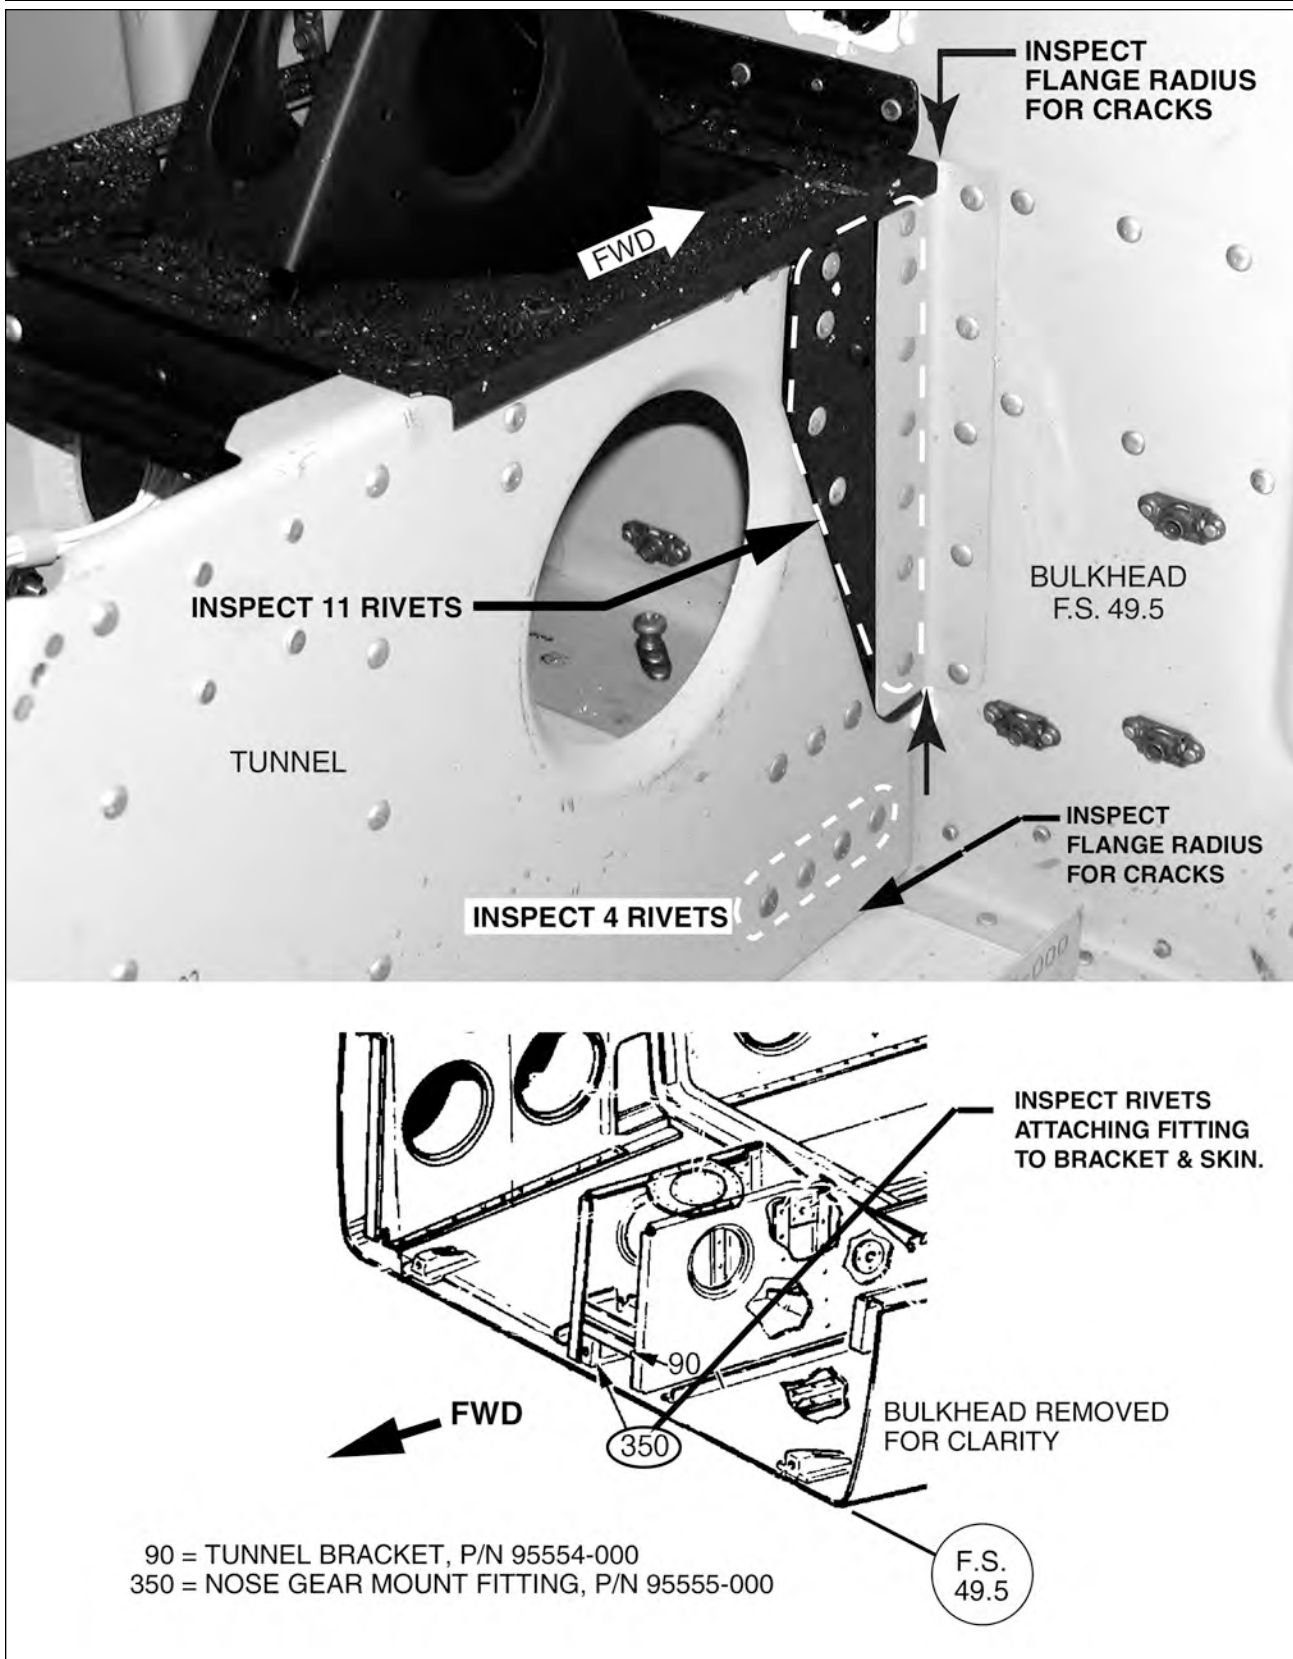

Figure 32-9. Tunnel Bracket Installation Inspection
(4) 100 Hour Tunnel Bracket Installation Inspection (See Figure 32-9.)
Inspect the rivets shown in Figure 32-9 for looseness. These rivets attach the Tunnel Bracket P/N 95554-000 and the Nose Gear Mount Fitting P/N 95555-000 to the tunnel aft of the bulkhead at F. S. 49.5. (See Items 90 and 350, respectively, in Figure 32-9.)
- (c) Inspect the bracket attachment flange for cracks in the flange radius as shown in Figure 32-9.